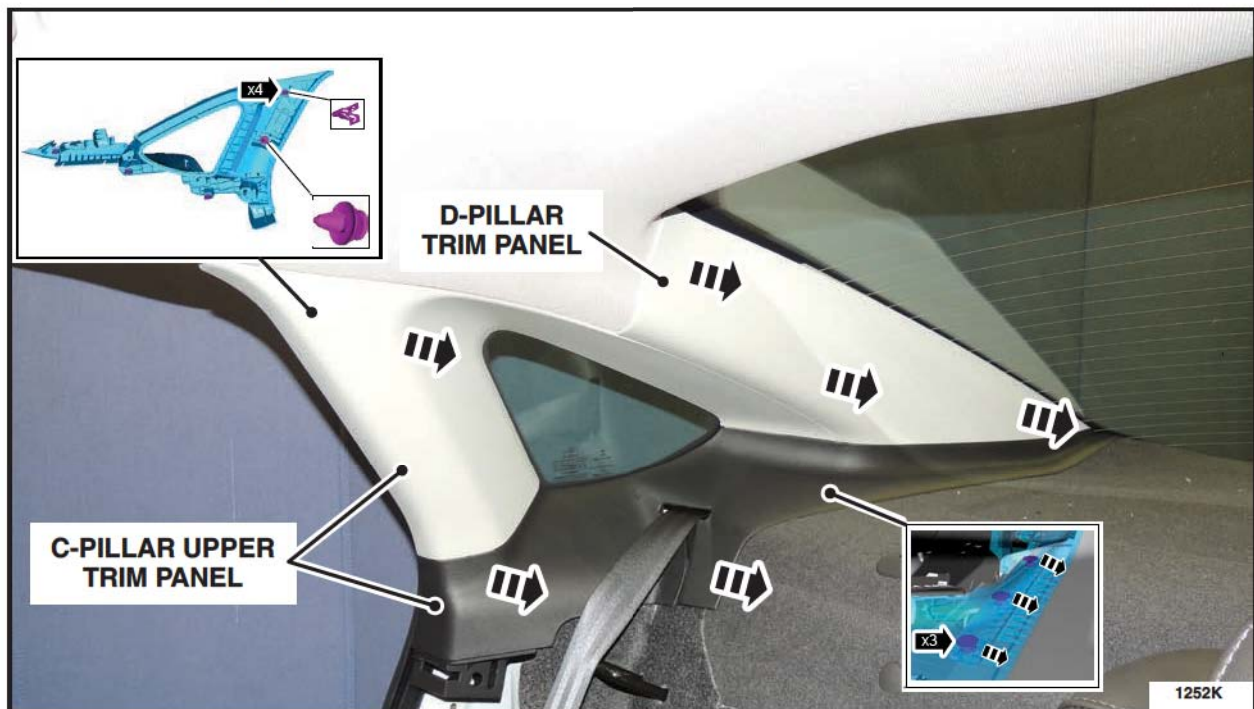

FIGURE 9
14. Remove the RH and LH upper C-pillar and D-pillar trim panels together. See Figure 9.